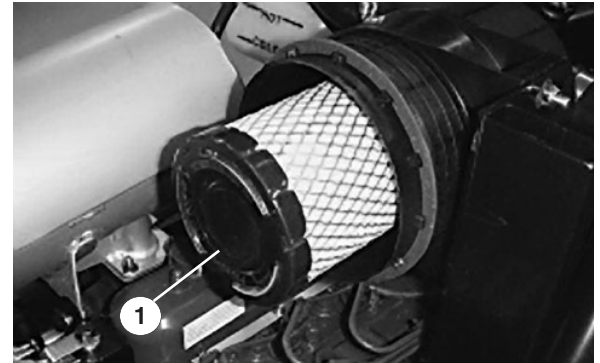

Figure 23
2. Gently slide the filter (Fig. 23) out of the air